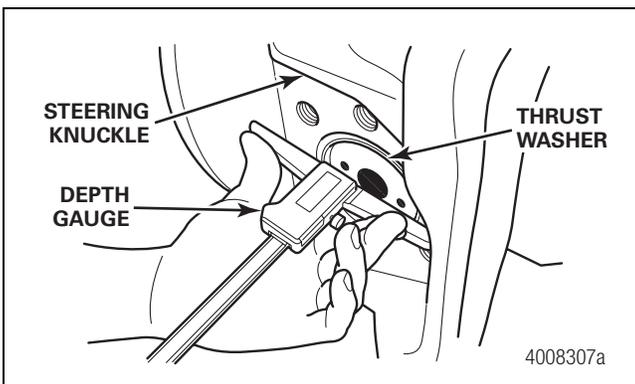

Figure 8.9
4. Use a depth gauge to measure from the king pin boss to the thrust washer face. Figure 8.9.